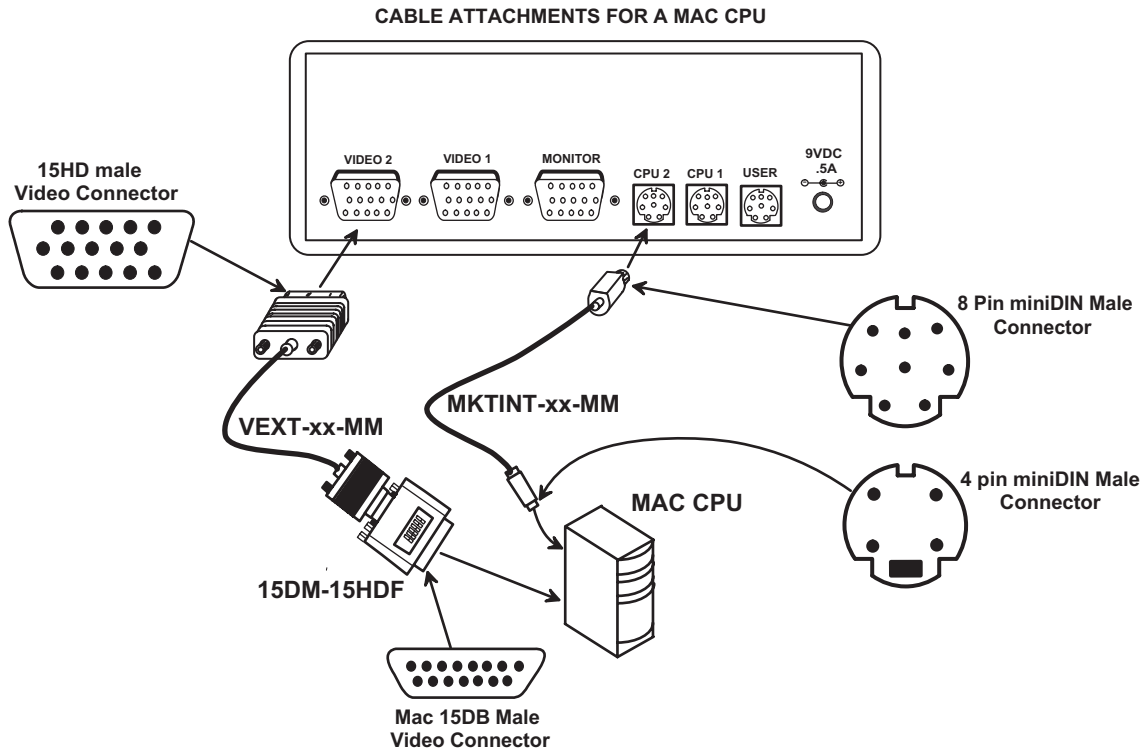

Figure 8- Connect MAC CPU to ST-2U
- MAC-** Attach a MKTINT-xx-MM cable between the keyboard port of the CPU and a 8 pin miniDIN female "CPU x" port on the ST-2U switch. Using a 15DM-15HDF adapter, attach a VEXT-xx-MM cable between the video port on the CPU and a 15HD female "VIDEO x" port on the ST-2U switch. (See Fig. 8.)